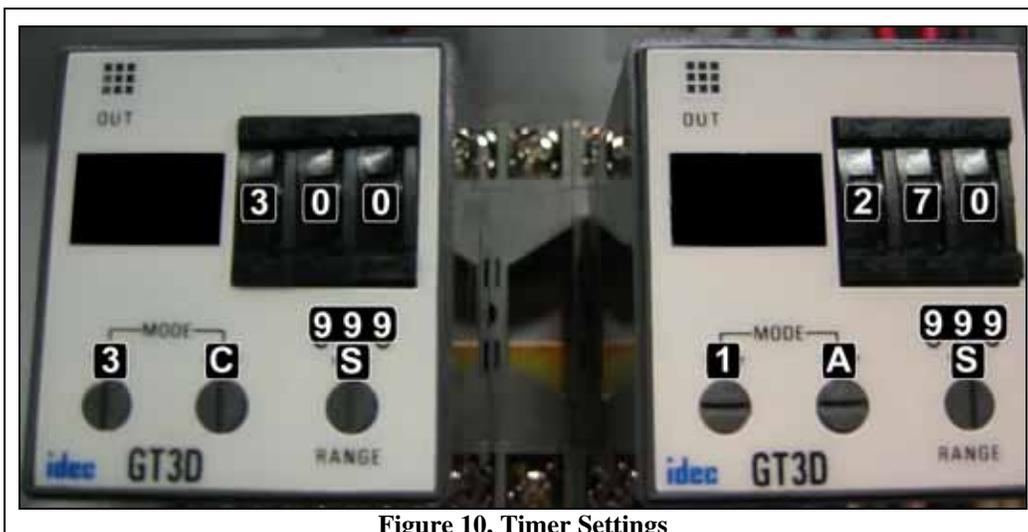

Figure 10, Timer Settings
Step 2) Both Timers (see Figure 10) should have red digits showing on their displays, if not then the Start/Stop Button is bad and needs to be replaced.
- Step 5) The timers TR1 and TR2 must be configured to these settings only. Any other values will prevent the equipment from running. If different from Figure 10 use a small screwdriver to adjust the values.